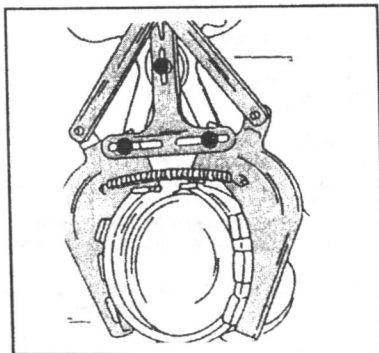

Fig. 1.64. — Removal of piston rings.
- Use a pair of piston ring pliers and remove the piston rings one after another from the crown end of the piston, as shown in Fig. 1.64. If no piston ring pliers are available, use three thin metal strips and slide the rings over the strips to remove them one by one. One of the strips must be placed underneath the piston ring ends to avoid scratches.